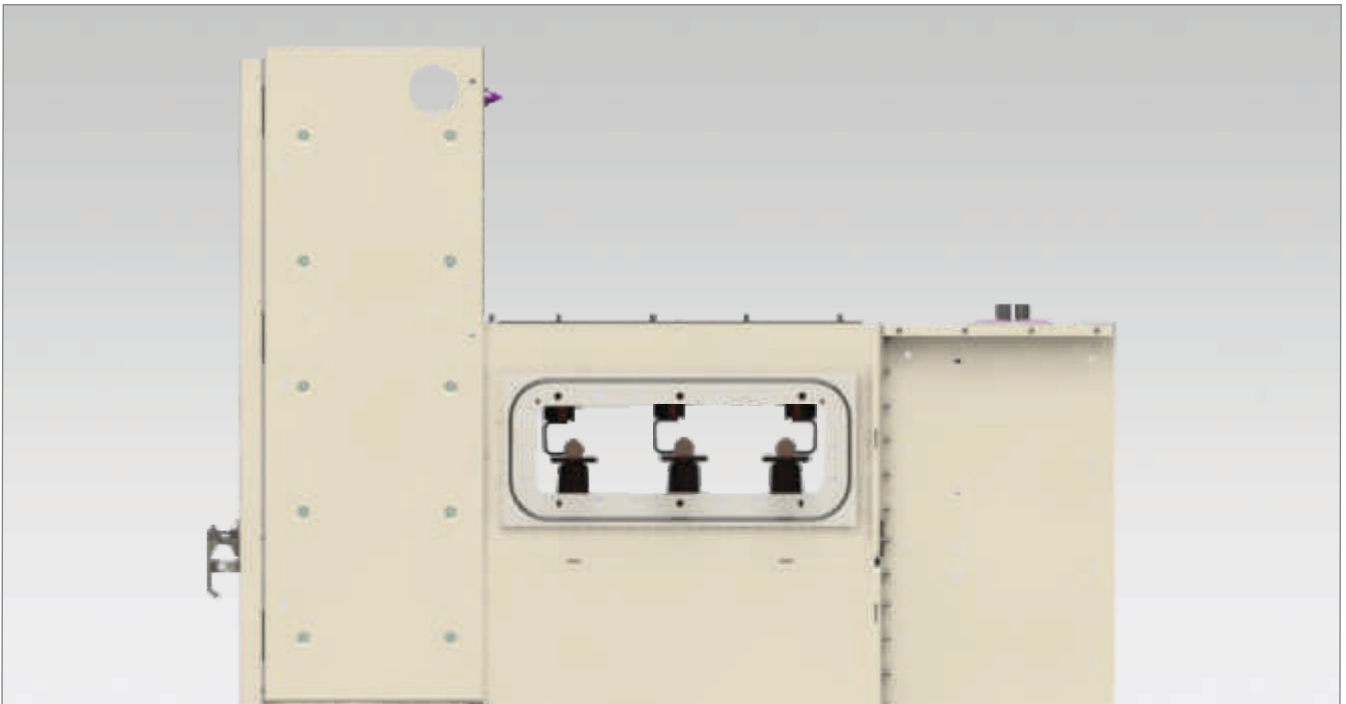

Figure 5.3.2 - Connecting the Adjacent Panel
75 NM) making sure that there is a maximum gap of 1mm in between plate and cubicle. Refer to figure 5.3.2. Repeat the same procedure as in item 5 & 6 for the main bus.